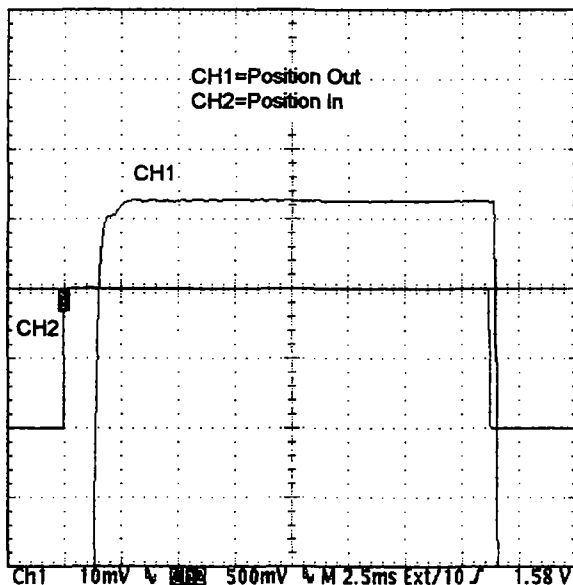

Figure 8.
4. Adjust the oscilloscope channel monitoring V_p to 10mV/div. The system should now look like Figure 8.